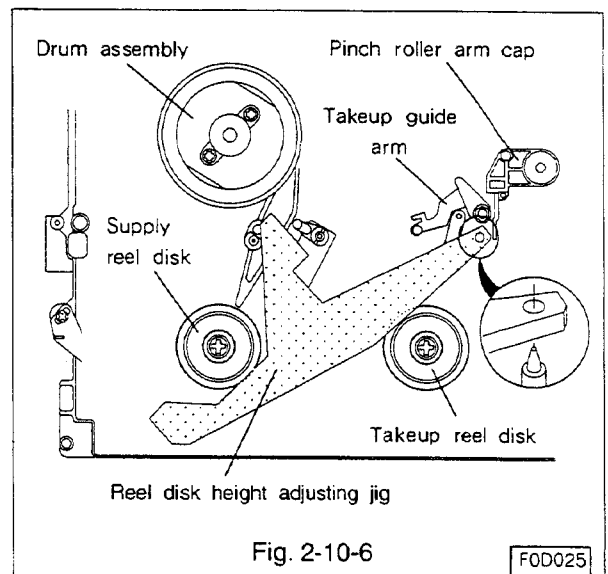
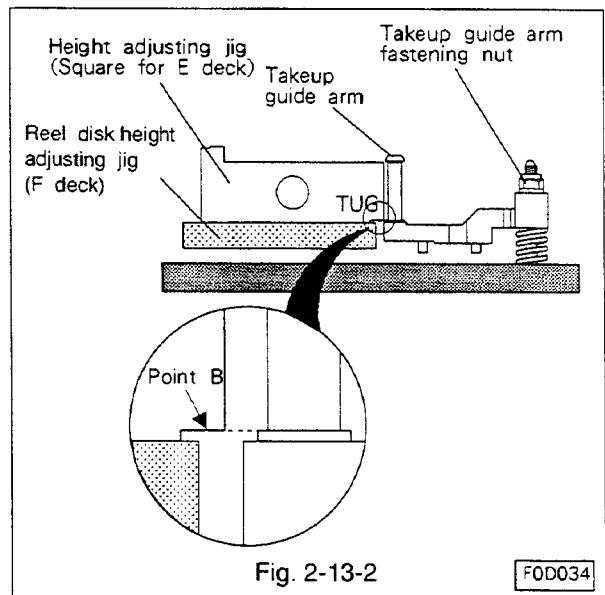

Fig. 2-10-6
Fig. 2-13-2
- J. Place the reel disk height adjusting jig (Part Number 859C342O20) in the reference position on the main plate. (Refer to Fig. 2-10-6.)
- E. Place the reel disk height adjusting jig (Part Number 859C342O20) in the reference position on the main plate. (Refer to Fig. 2-10-6.)
- B. Place the reel disk height adjusting jig(for the F deck) in the reference position on the main plate(Refer to Fig. 2-10-6). Insure the takeup guide arm is level with point B of the height adjusting jig(for the E deck). (Refer to Fig. 2-13-2.)